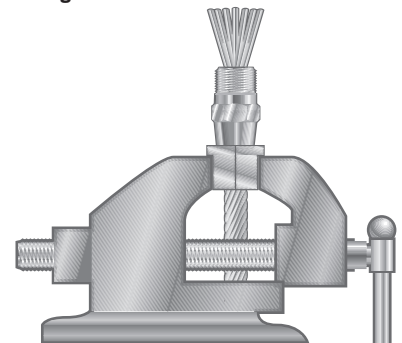

Figure 2
**STEP 2: Unlay the rope.** (Figure 2) Gently force a screwdriver between the three main strands to unlay the rope. Once the three main strands have been unlayed, insert the brass plug and partially seat the brass plug (this eliminates further unlaying of the strands). Now, unlay the wires in each of the three strands to form a symmetrical basket. Take care to minimize individual wires crossing each other in the symmetrical basket.